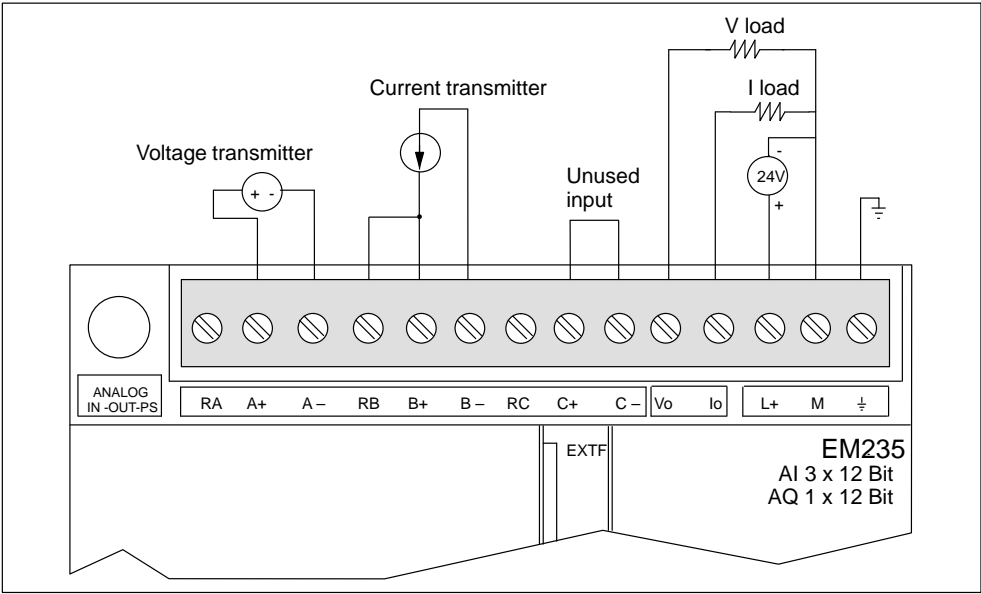

Figure A-41 Connector Terminal Identification for Expansion Module EM235 Analog Combination AI 3/AQ 1 x 12 Bits
- Short the inputs for any unused channels, as shown in Figure A-41.